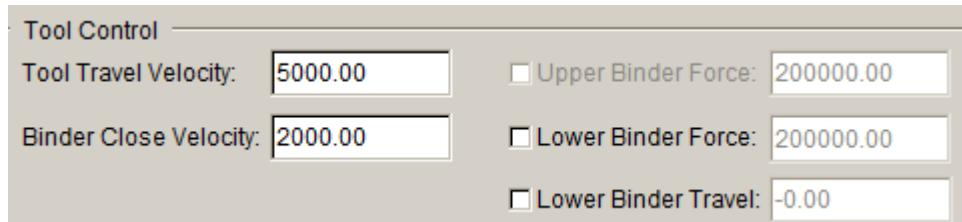

Figure 7.6.20 Tool Control
Tool Control section contains parameters relate to tool travel speed (m/sec), binder support force (N) and lower binder travel (mm) for single-action draw (Figure 7.6.20).